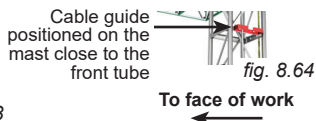

fig. 8.64
- 15- Install the first cable guide on the middle bar of the second mast section, making sure it is positioned on the structure to be close to the tube located on the front of the mast (fig. 8.64), toward the face of the work. Secure in place with bolt assemblies.